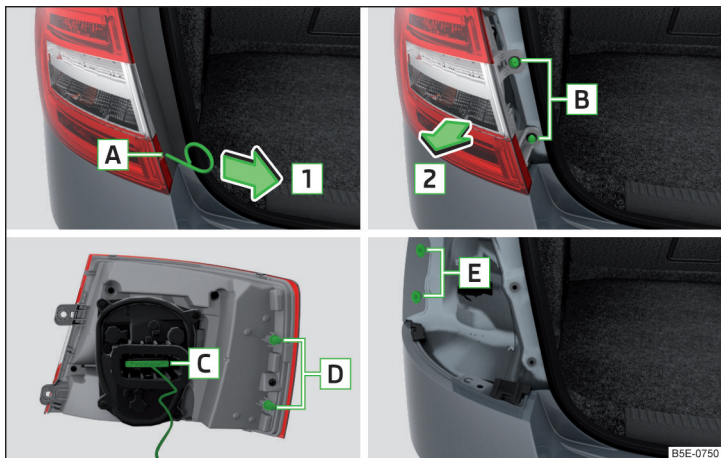

Fig. 360 Removing lamp
- › Fig. 360.
- › Insert the lamp with pins **D** » Fig. 360 into the recesses **E** in the body.